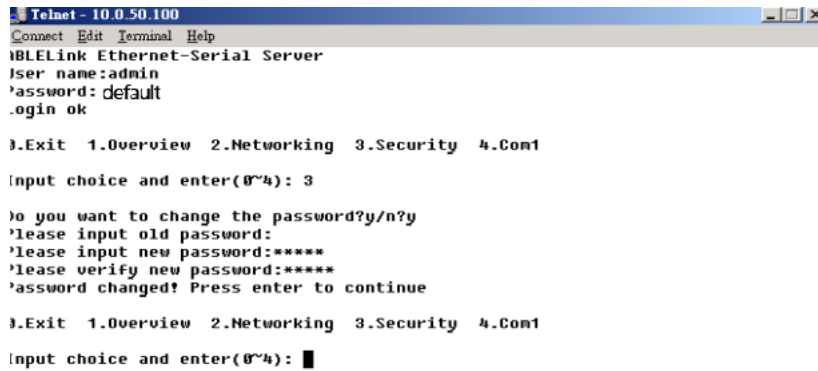

Fig. 12. Changing password
1. Select “**3**” on “**Input choice and enter (0~5):**” (Fig. 12).